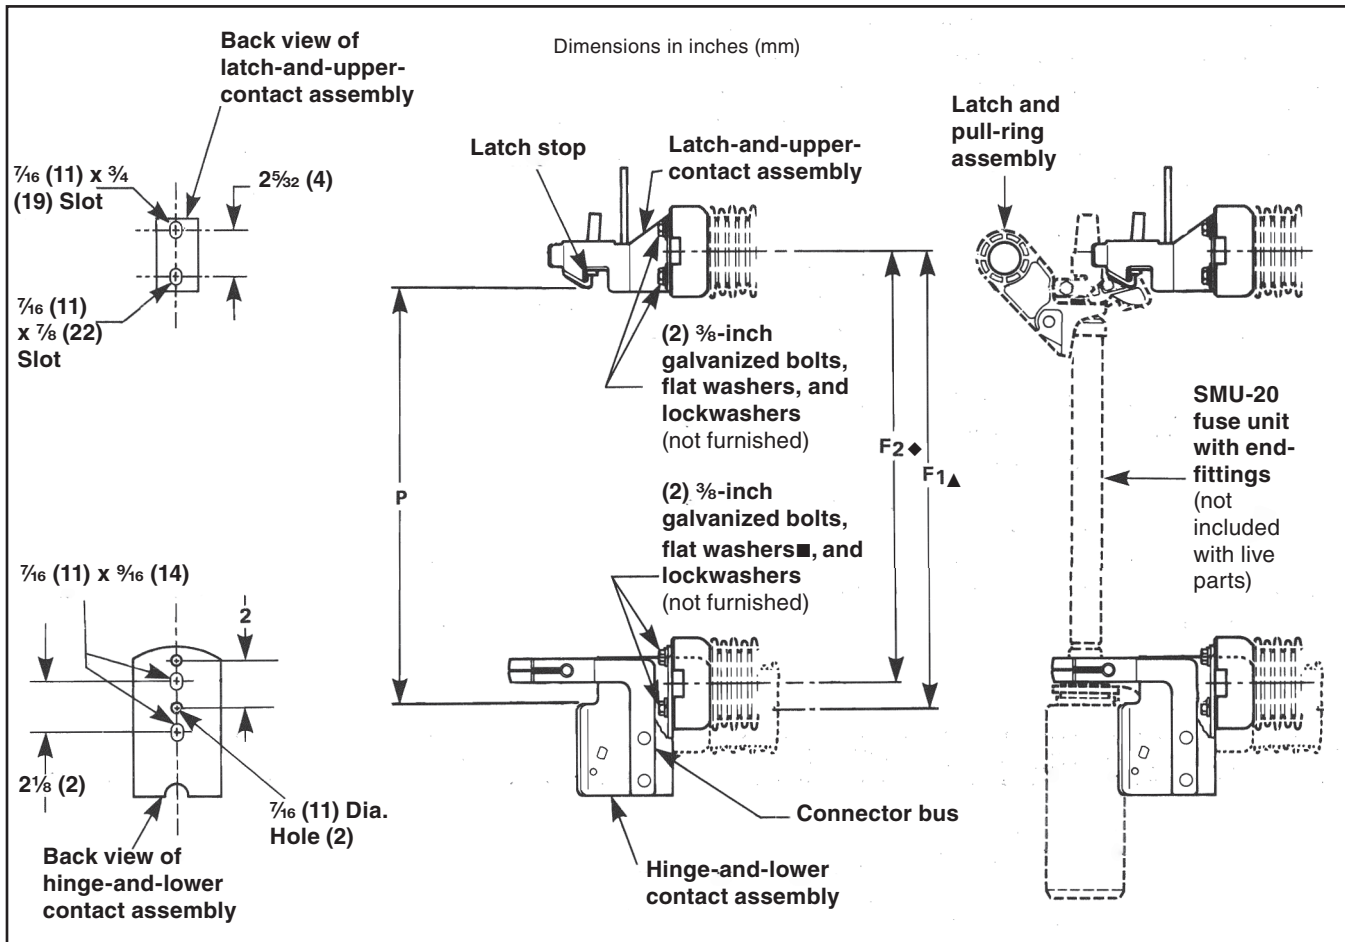

Figure 1. Dimensions for mounting live parts for SM-20 Power Fuses.
STEP 1. Install insulators (not included with live parts) with center-to-center distances as indicated by Dimension “F1” or “F2,” in Figure 1, as applicable.
STEP 3. Mount the hinge-and-lower-contact assembly on its insulator with the two mounting bolts● snug but loose enough to permit movement of the assembly within the confines of the mounting holes or slots, as applicable. See Figure 1.
STEP 5. With the fuse unit still in the fully **Closed** position, accurately measure the distance between the lower edge of the latch stop on the latch-and-upper-contact assembly and the “shoulder” on the hinge-and-lower-contact assembly (Dimension “P” in Figure 1). Move the latch-and-upper-contact assembly toward or away from the hinge-and-lower-contact assembly as required to bring this dimension within the limits specified in Figure 1 on page 6.